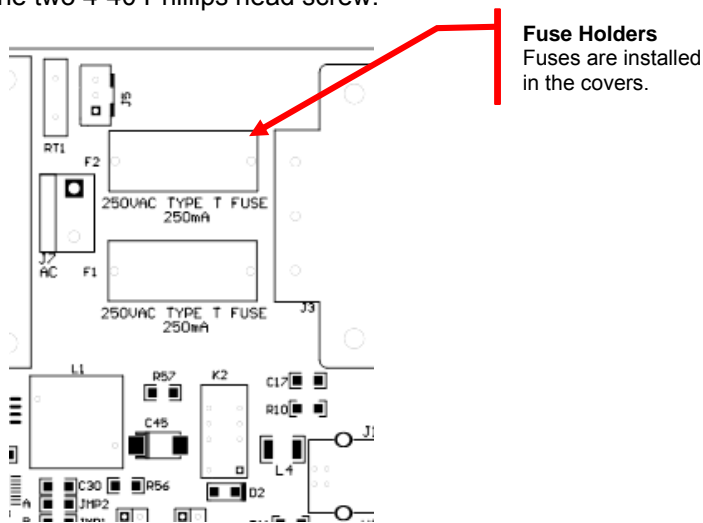

Figure 19 Location of Fuse Holders
3. Refer to Figure 19 below. Locate the two Fuse Holders near the AC Input Module towards the back of the unit. Remove the cover to each fuse holder. The fuse is installed in the cover. Remove the existing fuse and install the appropriate replacement fuse.